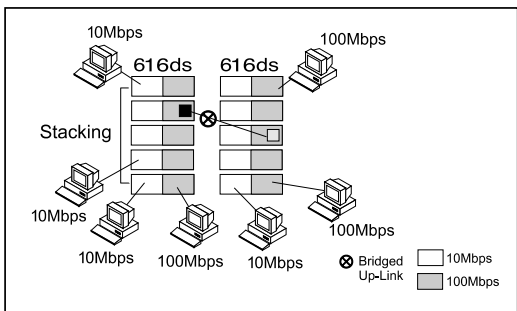

Figure 3-5 Network domains and bridged uplink.
- All PCs with 10Mbps network adapter cards transmit data at 10Mbps and form the 10Mbps network domain, as shown in Figure 3-5.
- PCs with 10/100Mbps network adapter cards will auto-negotiate and switch the network speed to 100Mbps. They transmit data at 100Mbps and form the 100Mbps network domain, as shown in Figure 3-5.